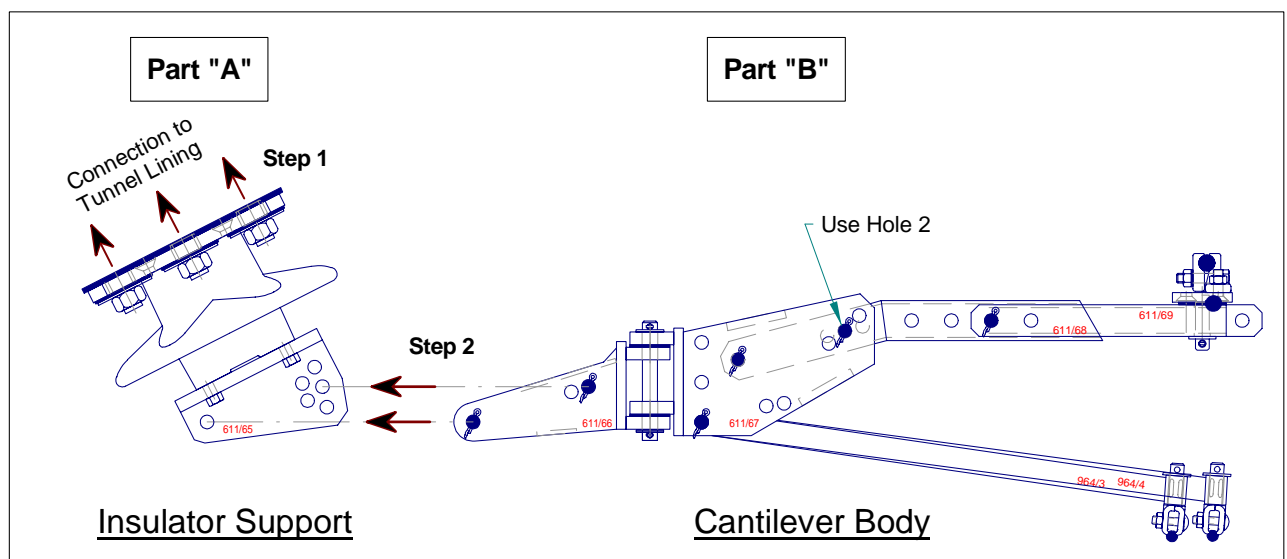

Figure 25 - Parts "A" & "B" of the Mk-3 Tunnel Cantilever
This Tunnel Cantilever can be separated into 2 main assemblies as shown in *Figure 25*:
Firstly, Part “A” needs to be installed onto the wall – this is “**Step 1**” shown in *Figure 25*.
Ensure the 16mm stainless steel pin for Catenary Height adjustment is in Hole 2 (of 3), as shown in *Figure 25*.
1. Raise Part “B” assembly and connect to Part “A” – this is “**Step 2**” shown in *Figure 25*. Connect the 2 parts using the 2 long 16mm stainless steel pins (Item 12) – firstly one pin installed at the pivot holes and then the other in one of the 5 adjustment holes so that the top surface of the External Tube is closest to being horizontal. (The holes each provide 5° of rotation, so the maximum error should be 2.5° from horizon). Use an electronic spirit level to measure and confirm this as being horizontal. This must be done with Catenary Height Adjustment using Hole 2 (of 3), and before the Catenary wire is run.
The Tunnel Cantilever should be installed as detailed in the design cross-section for that location, which should ideally have been based on as-built survey of installed “Part A” in *Figure 25*. (Be careful of the risks in doing this, as detailed in *Section 10*).